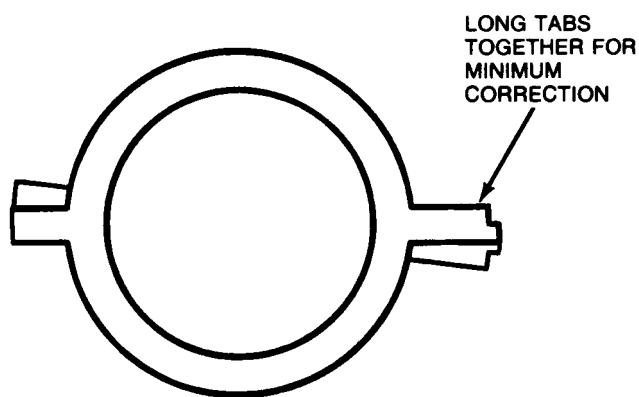

Fig. 2 - Centering Rings
6. Adjust the *Green Centering* rings for minimum correction (see Fig. 2).